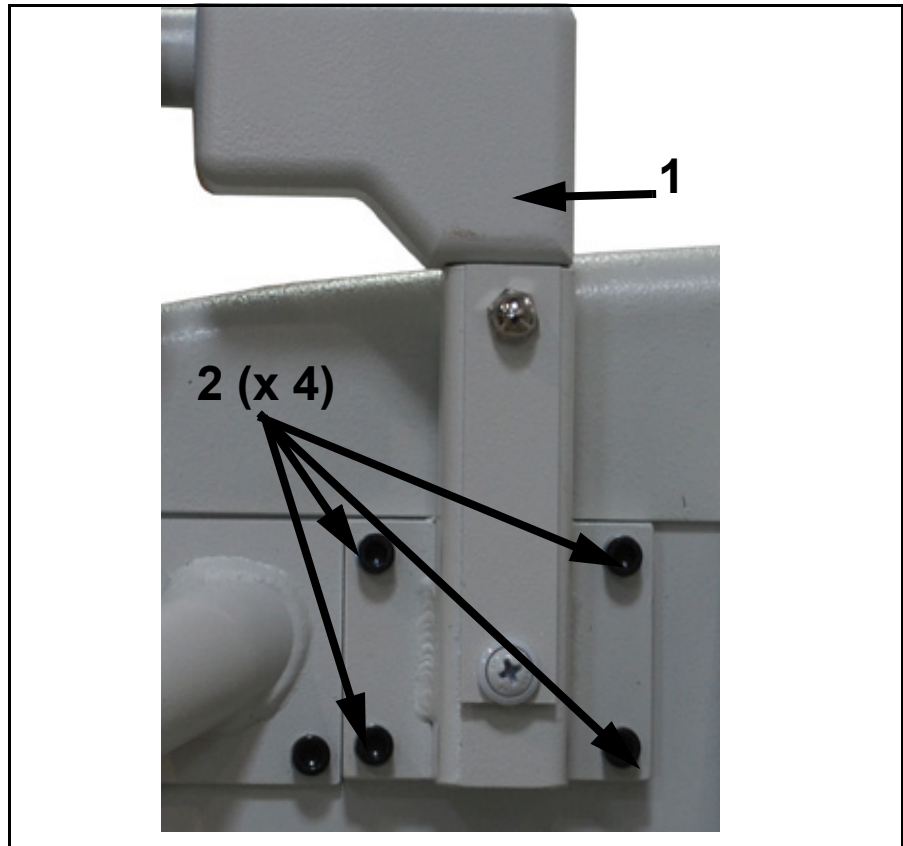

Figure 6-19. Handle Removal
- 1 To remove the handle (1 in Figure 6-19), unscrew the handle screws (2) and lift handle.